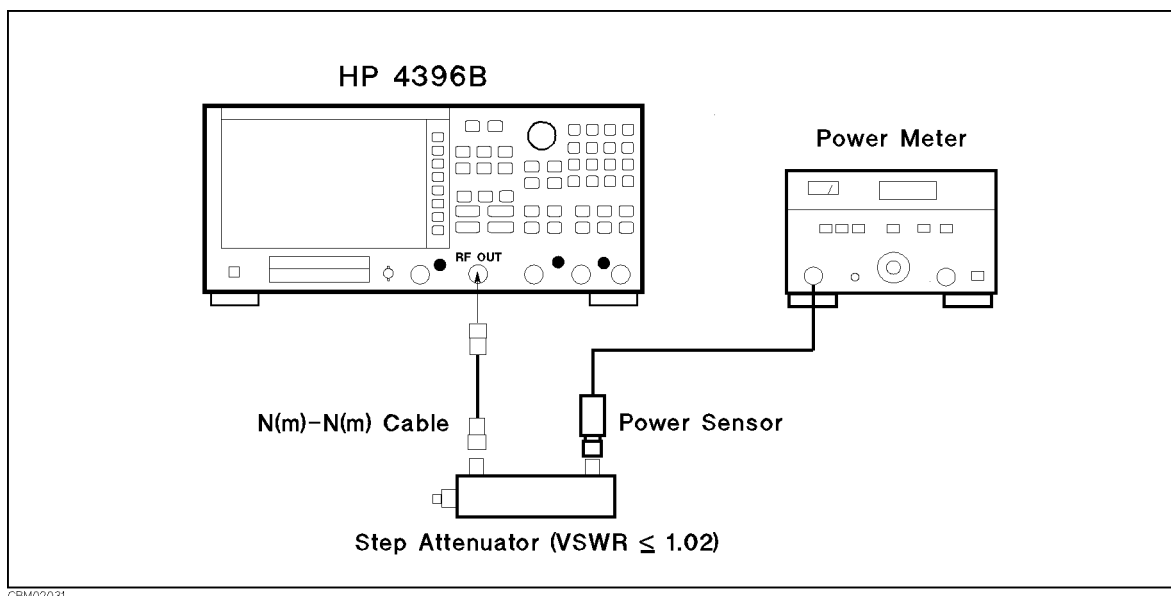

Figure 2-4. Power Sweep Linearity Test Setup
4. Connect the test equipment as shown in Figure 2-4.